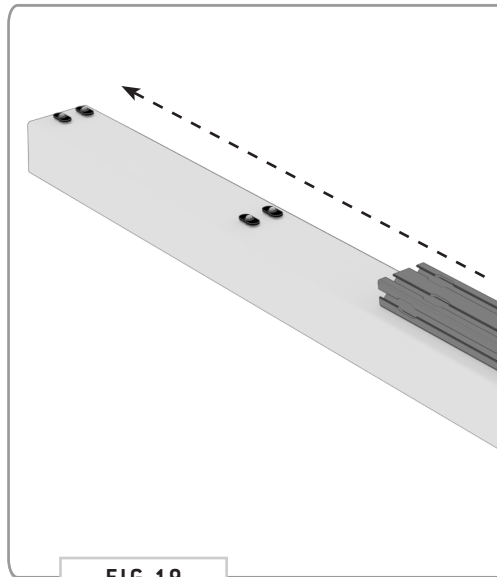

FIG 19
**6.2 Crossbar Install:** Now, slide the **Crossbar** onto the **Rear Spoiler**. You'll have to straighten each **T-Nut** as you go to get it to feed into the **Crossbar** correctly (FIG 19). After sliding the **Rear Spoiler** and **Crossbar** together, tighten all fasteners.